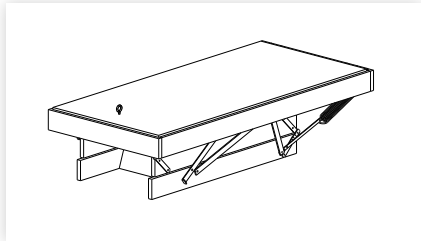

figure 6
3. Turn the lid over so the lid is facing up. Fit the screw eye 100mm in from the opening end, midway across the width (figure 6).